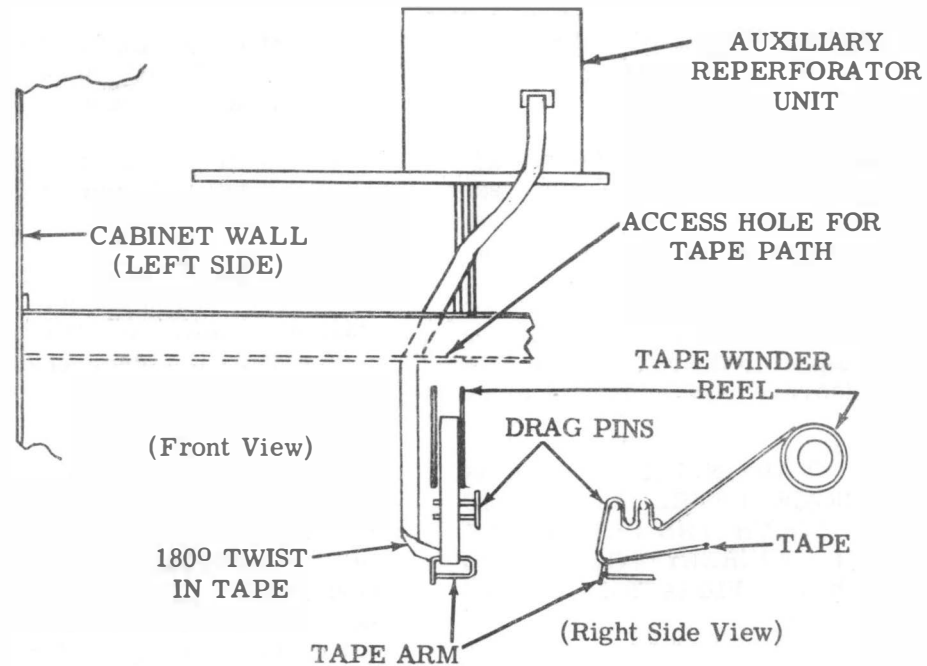

Figure 12 - Tape Path from Auxiliary Reperforator Unit to Tape Winder Reel
13.10 To route the tape from the auxiliary typing reperforator unit to the tape winder reel, thread the tape through the access hole provided, twist it 180 degrees, thread it through the tape arm around the drag pins and onto the tape winder reel (see Figure 12).